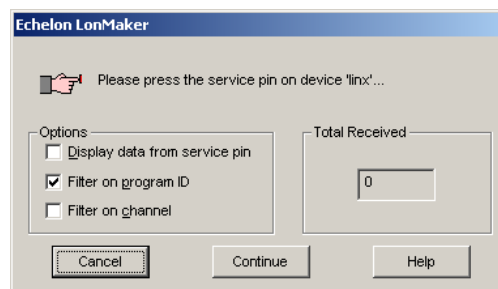

Figure 126: Wait for the service pin from the device.
7. Then the service pin requestor opens as shown in Figure 126. Press the service pin on the replacement device on the correct port. You can also send the service pin using the Web interface (see Section 4.1).